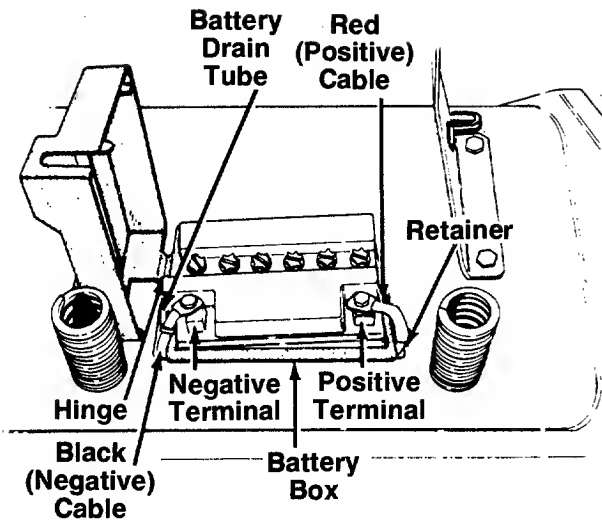

FIGURE 3.
3. Place the battery inside the battery box so that the positive terminal is toward the right side of the unit. See figure 3. Route the battery drain tube down beside the battery box.
4. Slide the hex nut (provided with battery hardware) into the positive (+) terminal. Place the positive cable on the positive terminal. Secure with bolt provided. See figure 3.